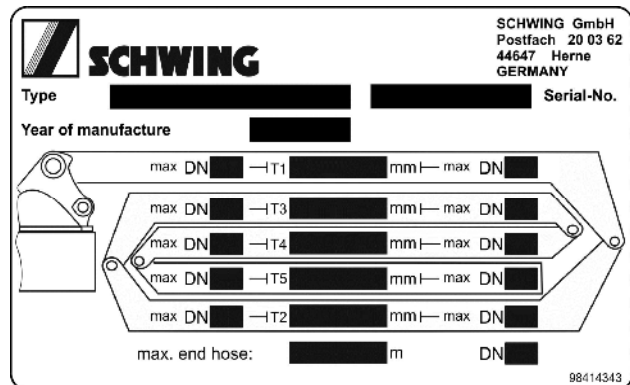

Fig.: 5
A distinctive type plate is located on the placing boom (Fig.: 5) for the placing boom pumping line. The type plate for 4-section placing booms has the same structure. The nominal sizes (DN) specified on this type plate are the maximum allowable.
Caption, Fig.: 5